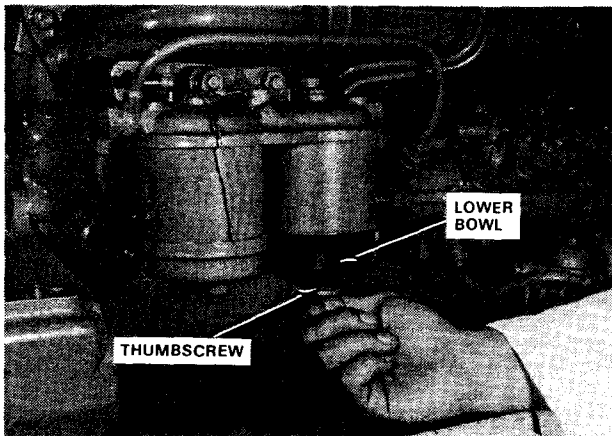

FIG. 26 Draining In-Line Fuel Filter (SSD-327 and SSD-437)
1. Loosen the thumbscrew located at the bottom of the lower bowl of the first fuel filter (Fig. 26).